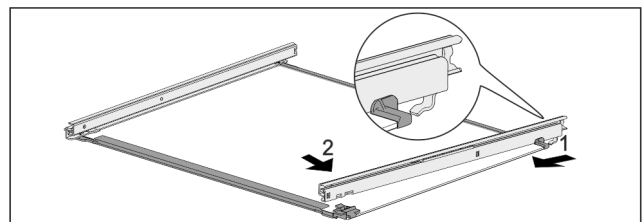

Fig. 53 Glass shelf with rails
- ▶ Hook in rail at the back. Fig. 53 (1)
- ▶ Hook in rail at the front. Fig. 53 (2)